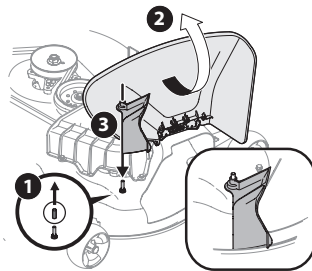

Figure 21
2. Remove the deck pin rubber protective cap (1) in Figure 21.
3. Raise the chute deflector (2 in Figure 21) on the deck and hold it while you install the chute adapter (731-10133) (3) onto the deck as shown in Figure 21.